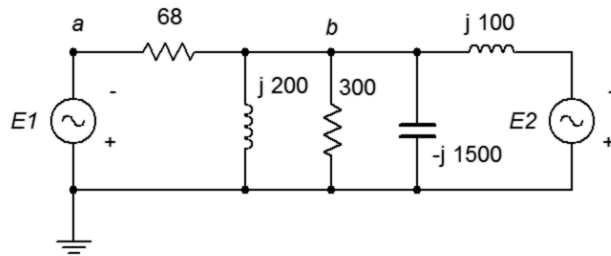

Figure 6.4
7. Use mesh analysis to find the current through the $j200 \text{ }\Omega$ inductor in Figure 6.4. $E1 = 1\angle 0^\circ$, $E2 = 2\angle 0^\circ$.
8. Given the circuit in Figure 6.4, write the mesh loop equations and determine v_b . Consider using parallel simplification first. $E1 = 36\angle -90^\circ$, $E2 = 24\angle -90^\circ$.
49. Given the circuit in Figure 6.4, use nodal analysis to determine v_{ba} . $E1 = 1\angle 0^\circ$, $E2 = 2\angle 0^\circ$.